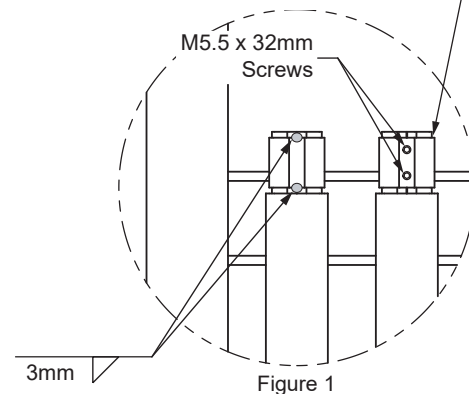

Figure 1
1. Carefully lift the NEXUS™ unit and place into the frame resting on the chassis. The shaft ends should point towards the front of the trailer (fig. 1). See page 20 for NEXUS™ lifting guidelines.